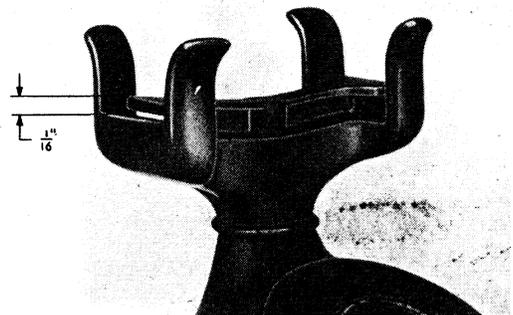

FIG. 2A — TYPES A, B, D, AND E MOUNTING MARGIN
3.03 When the plunger is slowly released on types A, B, D, and E mountings, no contacts shall make or break until the plunger has raised at least $\frac{1}{16}$ inch (see Fig. 2A).